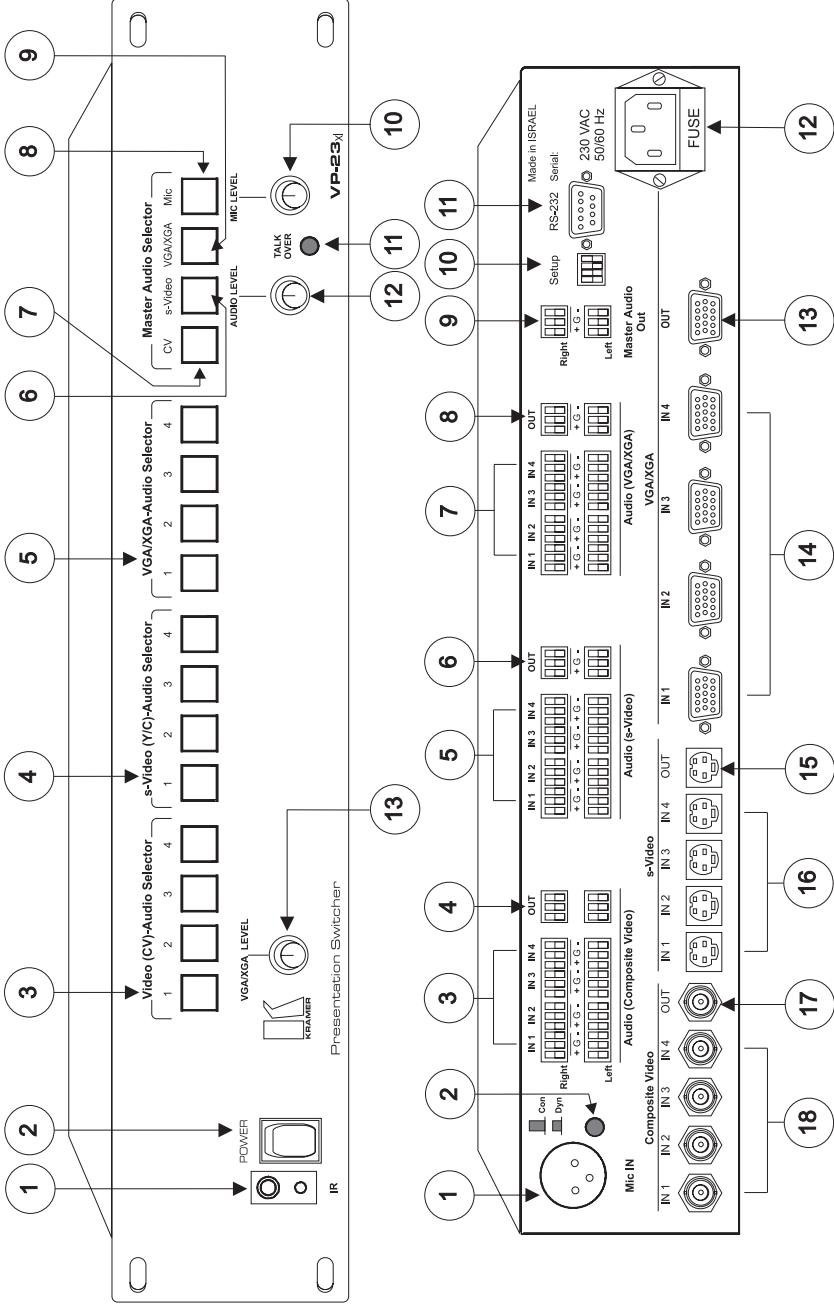

Figure 1: VP-23x4l 4x1 Presentation Switcher
Figure 1 illustrates the front and rear panels of the **VP-23xl**. Tables 1 and 2 define the front and rear panels of the **VP-23xl**, respectively.
3 Use the Con / Dyn switch (refer to the rear panel, item 2 in Figure 1) to select a dynamic microphone or a condenser